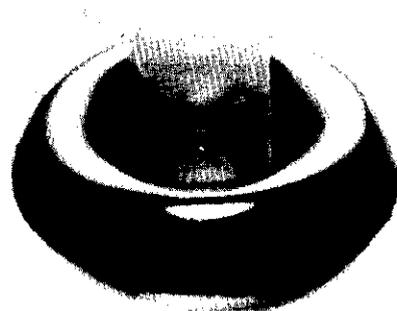

Fig 31—W7MPW's finishing-washer LED mount looks just fine.
□ Finishing washers, commonly available in hardware stores, make professional-looking LED mounts (see Fig 31). Two dabs of hot glue between the back of the LED and the panel hold the assembly in place.—*H. L. Van Ness, W7MPW, 8005 Sand Point Wy NE, Apt A34, Seattle, WA 98105*